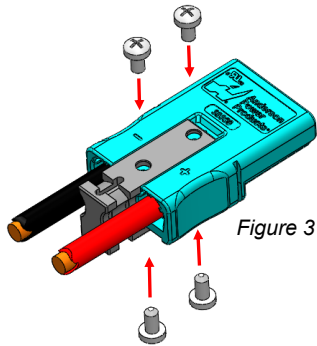

Figure 3
4. Secure the Cable Clamp to the center position of the housing as shown, using (4) screws. Drive screws snug against clamp's surface. Torque screws 8 to 12 in/lbs (figure 3).